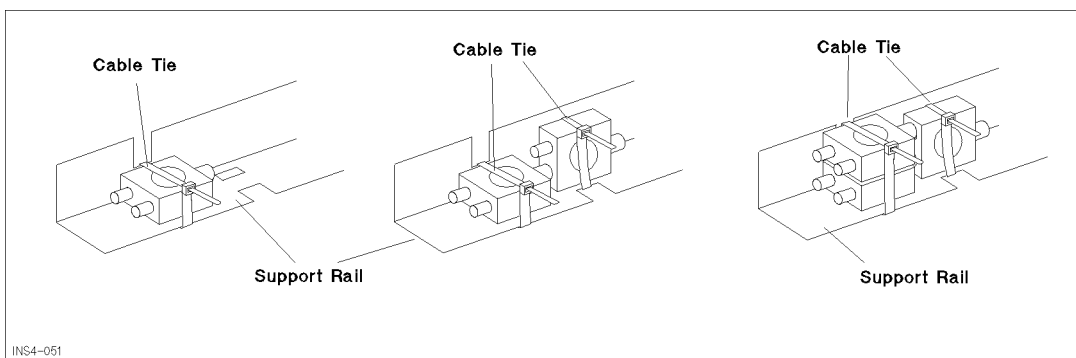

Figure 4-13. Pulse Adder/Splitters Fixed on the Support Rail
If the pulse adder/splitters (11) are not fixed to the support rail of the HP 8110A, fix with cable ties as shown in Figure 4-13.